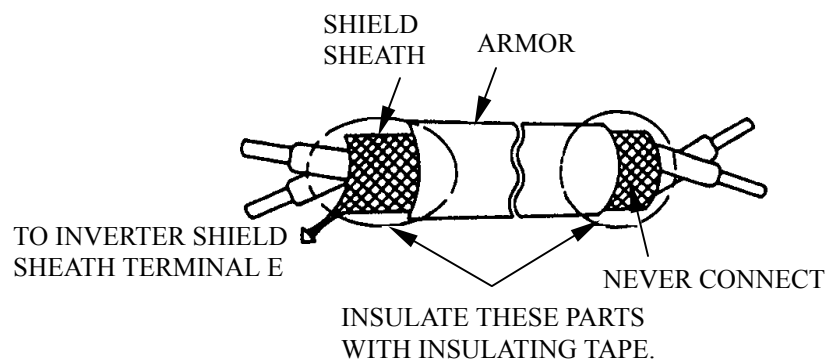

Fig. 4 Shielded Wire Termination
- (1) Separation of control circuit leads and main circuit leads: All signal leads must be separated from main circuit leads L1 (R), L2 (S), L3 (T), \oplus , \ominus , B2, T1 (U), T2 (V), T3 (W) and other power cables to prevent erroneous operation caused by noise interference.
- (2) Control circuit leads R1A-R1B-R1C, R2A-R2C, R3A-R3C (contact output) must be separated from leads 1 to 8, A01, A02, D01-DCOM and 24V, SC, 24VG, VIN, AUX, MT, GND.
- (3) Use twisted shielded or twisted pair shielded wire for the control circuit line and connect the shield sheath to the inverter terminal E to prevent malfunction caused by noise. See Fig.4. Wiring distance should be less than 164ft (50m).